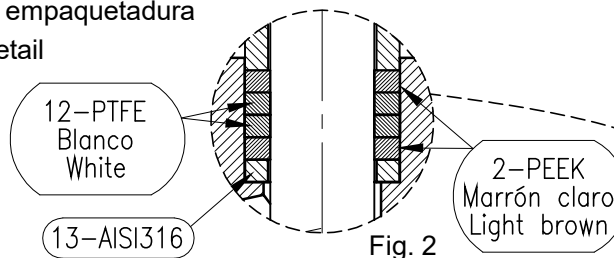

Fig. 2
- I) Unscrew the bolts (4) and (6). Take out the handle (7) and the metal sheep (9).
- II) Loose the bonnet (5) using a box-end wrench, unscrew the entire block set and discard it.
- III) Take out the packing gland (11) and the washers (2-12-13), then throw them away.
- IV) Clean inside the body (1), especially in the metallic seal. Verify the metallic seal is not oval shaped, rusted or enlarged. Otherwise, replace the entire valve.
- V) Place the washers (2-12-13) and the packing gland (11) supplied in the repair kit following the order specified in fig.2.
- VI) Lubricate the shutter tip (14) in the block set supplied in the repair kit.
- VII) Screw the block set inside the body (1) by hand, and then adjust it with a box-end wrench according to the model in the torque table.
- VIII) Place the bushing (3), the metal sheep (9), the handle (7) and both bolts (4-6).